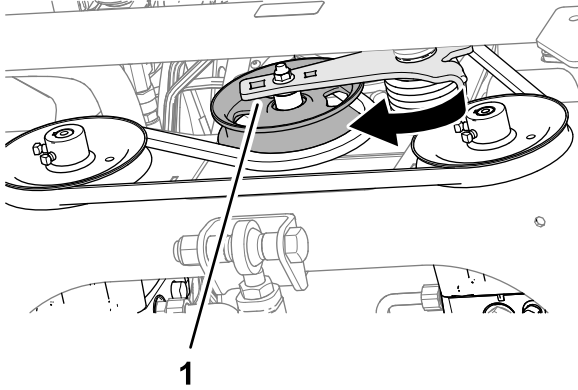

Figure 90
2. At the bottom, front of the engine, insert a socket wrench or breaker bar into the idler tension arm, and move the bracket up to relieve belt tension (Figure 90).